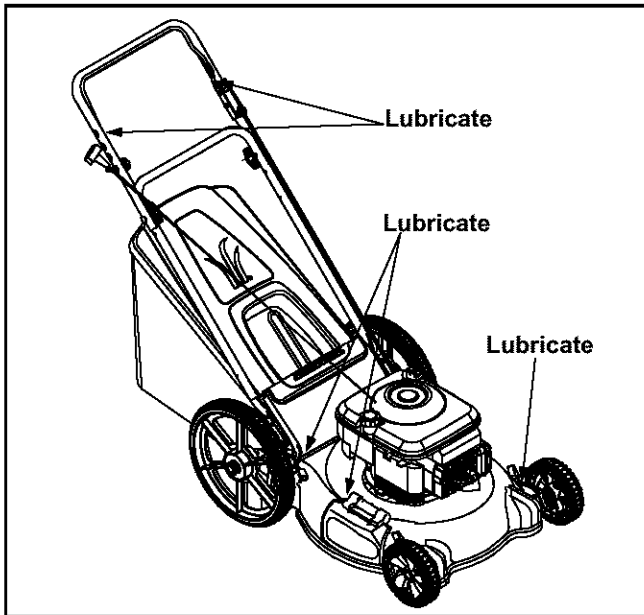

Figure 12
**Blade Control:** Lubricate the pivot points on the blade control handle and the brake cable at least once a season with light oil. The blade control must operate freely in both directions. See Figure 12.